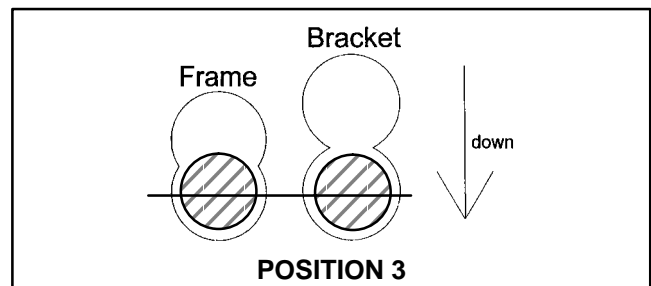

Figure 29
**Position 3:** A **more aggressive** position is used on firm turf (Fig. 29).